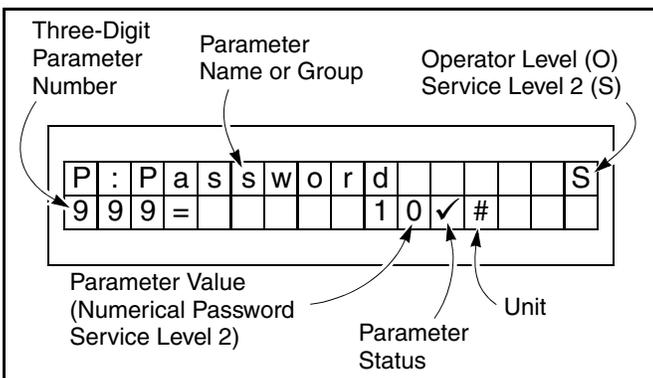

Figure 32
3. Enter the password by first pressing the up (▲) or down (▼) key until the numerical password required for the desired service level is displayed. (See Figure 32.)